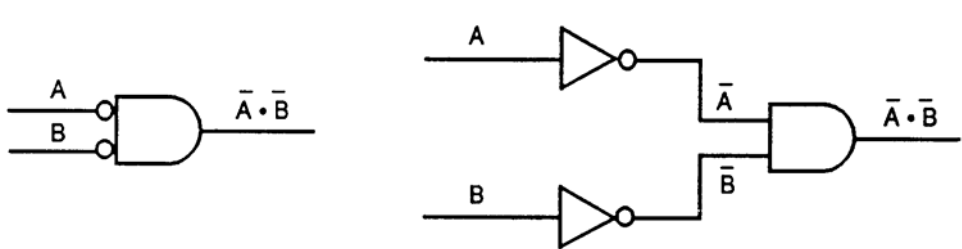

Figure Q-10. Using Circle to Denote NOT
(1) When the NOT function is used in conjunction with another gate, it is usually drawn in a circle. Figure Q-10 shows an AND gate with inverted inputs.